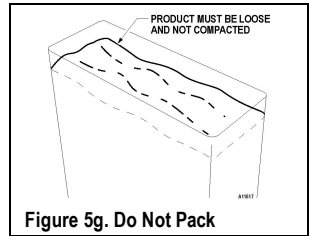

Figure 5g. Do Not Pack
- Leave a gap from the top of the product to the lip of the canister. **Figure 5g**.